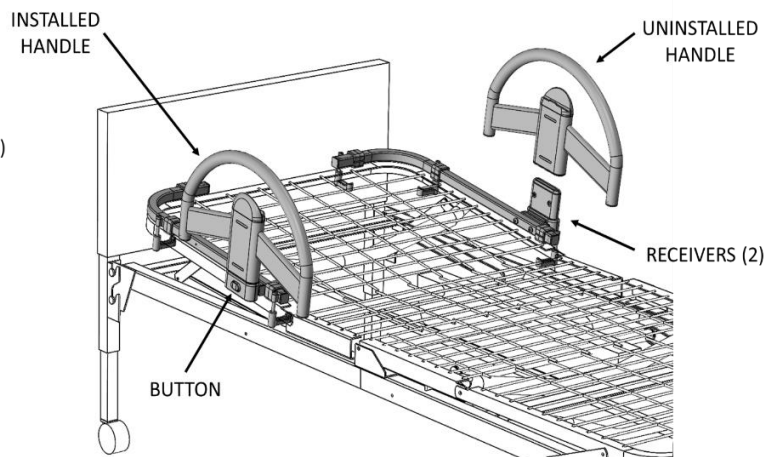

FIGURE 7
6. Install **HANDLES** onto **RECEIVERS** as shown in Figure 7.